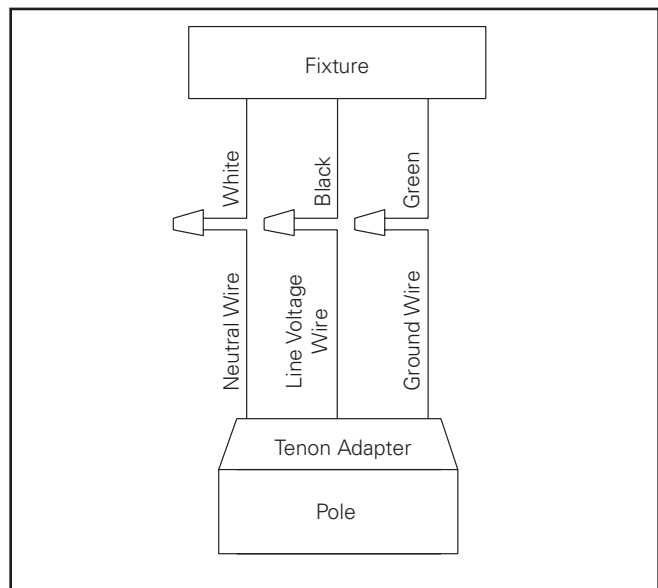

Figure 17.
- Pull the supply leads from bottom of luminaire and connect to supply wires from the post. (Figure 17.)